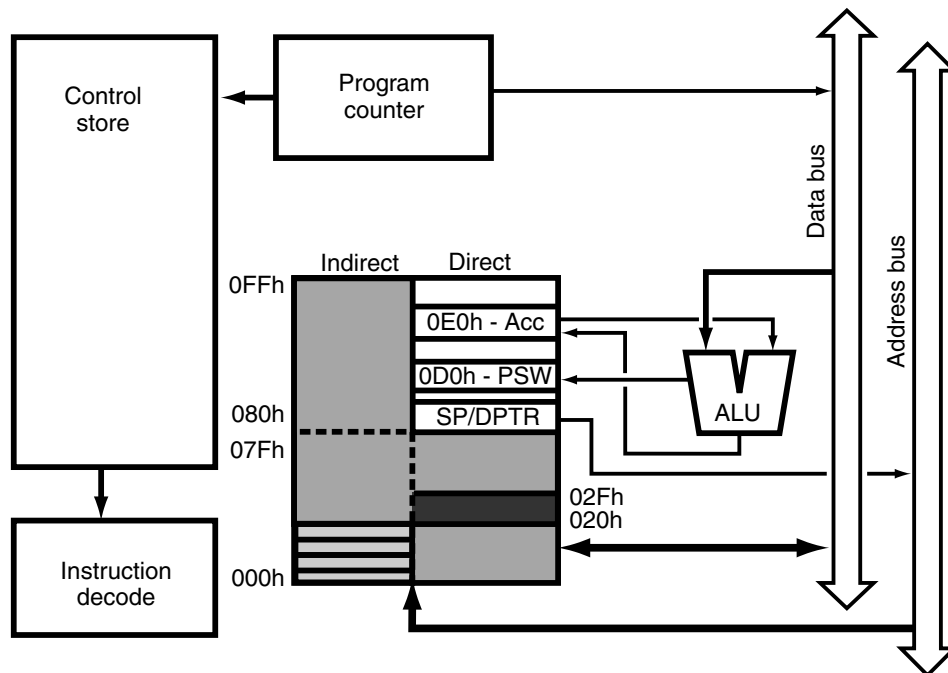

FIGURE 2-5 8051 architecture with register addressing.
With the special registers, the current block diagram looks like the one shown in Fig. 2-5. In this diagram, you can see how the stack pointer (SP), DPTR, A, and PSW registers are all accessible from the direct register area and how they interact with the 8051's register data and address busses.